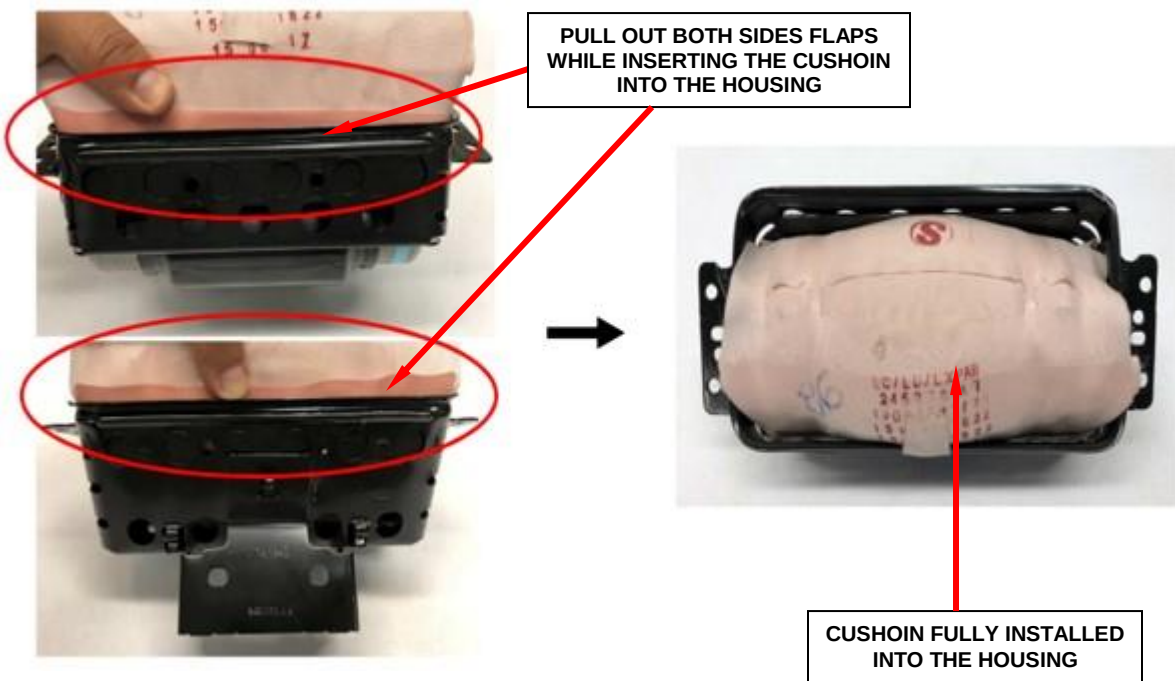

Figure 107 – Side Flaps Must Be Held Out
- l. Insert the cushion, pulling out both side flaps (Figure 107).